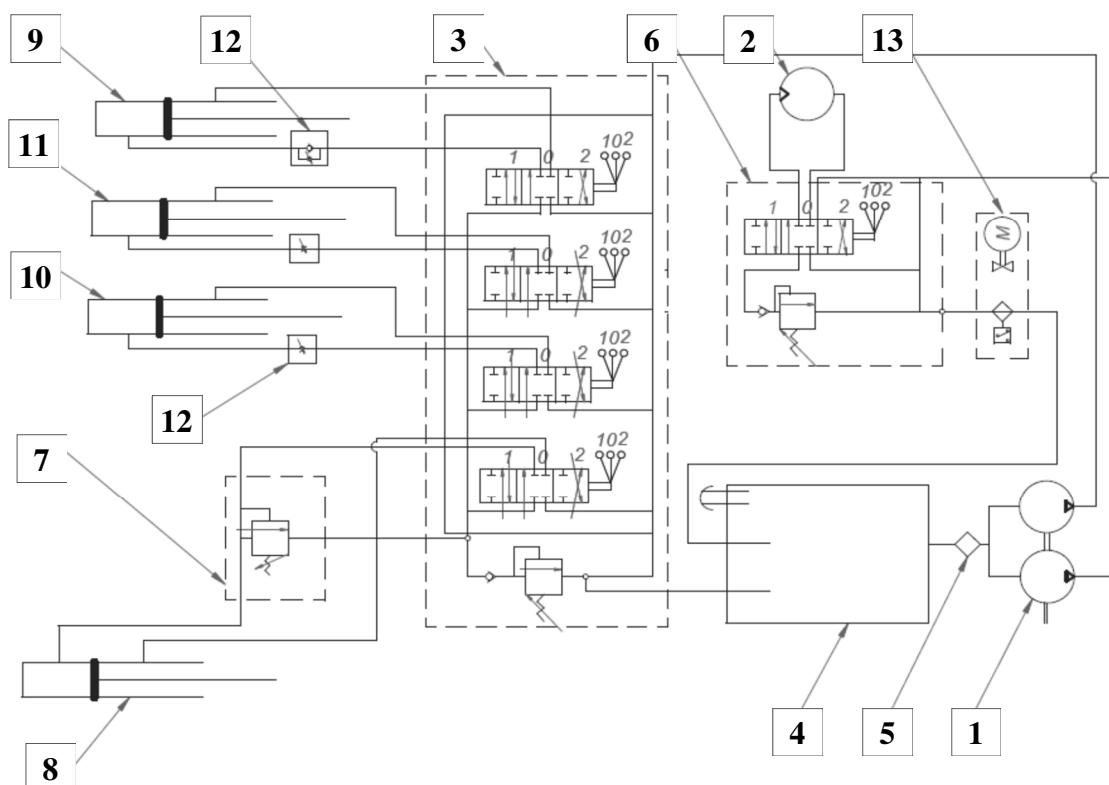

Fig. 20. Extension arm-type mower's hydraulic drive diagram
Geared pumps power two independent circuits: machine's drive circuit with capacity of 100 l/min and hydraulic cylinders' drive circuit with capacity of 21 l/min. In machine's drive circuits wires have $\varnothing 16$ mm diameter, while in cylinders' control circuit $\varnothing 10$ mm. Control of oil circulation is possible owing to hydraulic distributors (3, 6). Oil tank (4) of adequate capacity. In extension arm-type mower's hydraulic engine's drive circuit there is suction oil filter (5). On gauge plate cylinder (8) there is sweep valve (7) mounted to protect the machine's extension arms from getting overloaded (Fig. 20) – applies only to KWT 550, KWT 650 and CAMEL 900. Koliber 400 and Koliber 450 instead of gauge plate cylinder (8) both have overload breaker. Hydraulic cylinders (8-11) with throttle choke valves (12) control the extension arm.